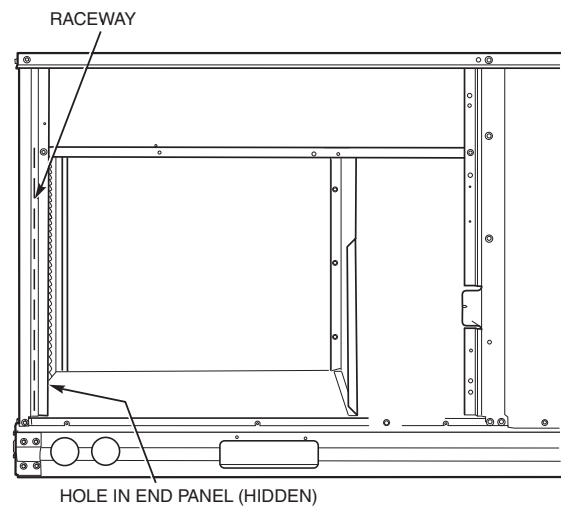

Fig. 30 — Field Control Wiring Raceway
Unit Without Thru-Base Connection Kit — Pass the thermostat control wires through the hole provided in the corner post; then feed the wires through the raceway built into the corner post to the control box. Pull the wires over to the terminal strip on the upper-left corner of the Controls Connection Board. See Fig. 30.
2. Feed wires through the raceway built into the corner post (see Fig. 30) to the 24-v barrier located on the left side of
2. Feed wires through the raceway built into the corner post (see Fig. 30) to the 24-v barrier located on the left side of the control box. The raceway provides the UL-required clearance between high-voltage and low-voltage wiring.